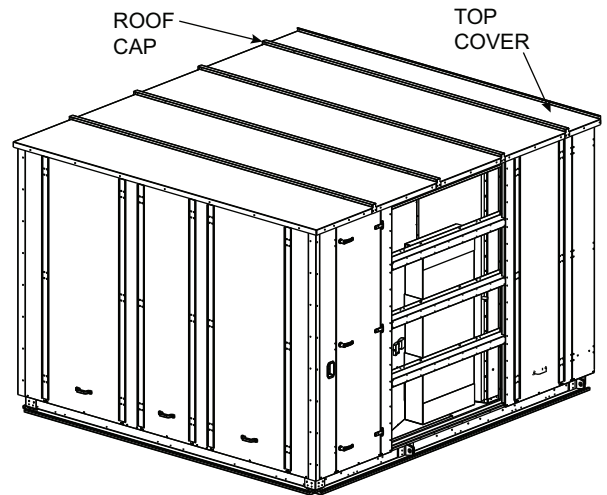

Fig. 36 — Roof Cap and Top Cover Removal
7. Remove the roof cap, top cover and L brackets from the filter end of the return section. Save these parts for later installation. See Fig. 36 and 37.